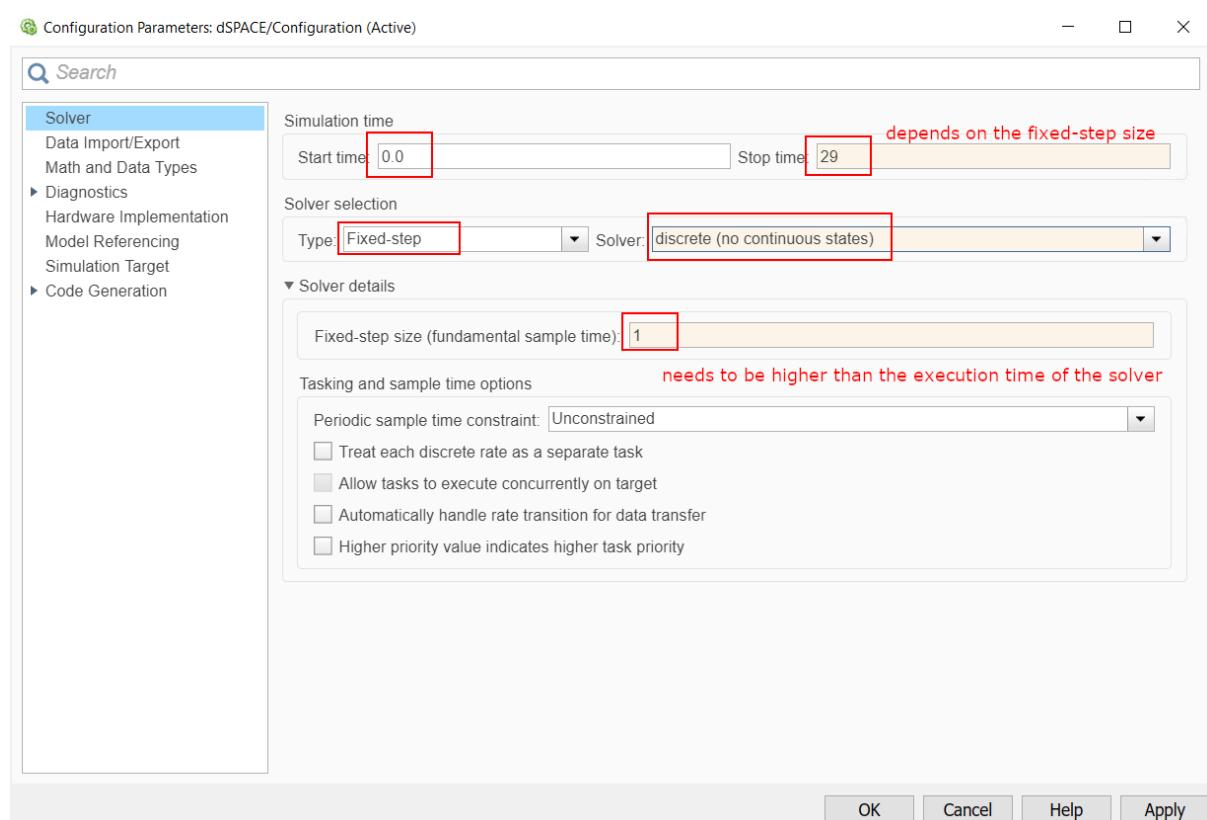

Figure 13.37: Set the Simulink solver options.
- 8) Access the Simulink model's options. In the “Solver” tab, set the options (see Figure 13.37):